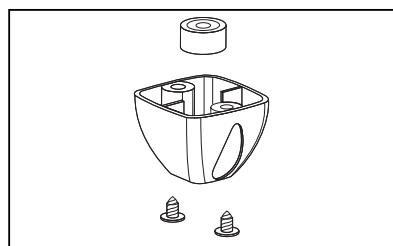

Figure 11.
11. Changing the feet (Fig. 11)